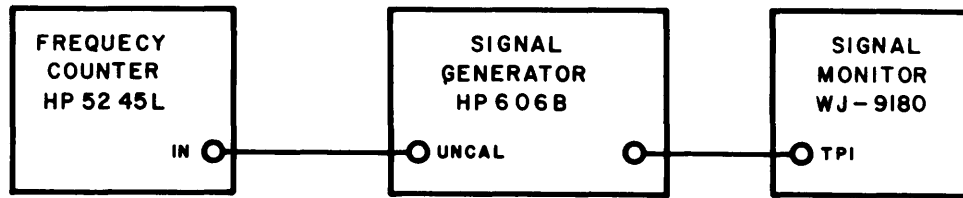

Figure 4-3. Equipment Setup for 205 kHz IF Amplifier Alignment
- 2) Connect the equipment as shown in Figure 4-3. A3A1A2TPI is located on the center partition of the chassis.